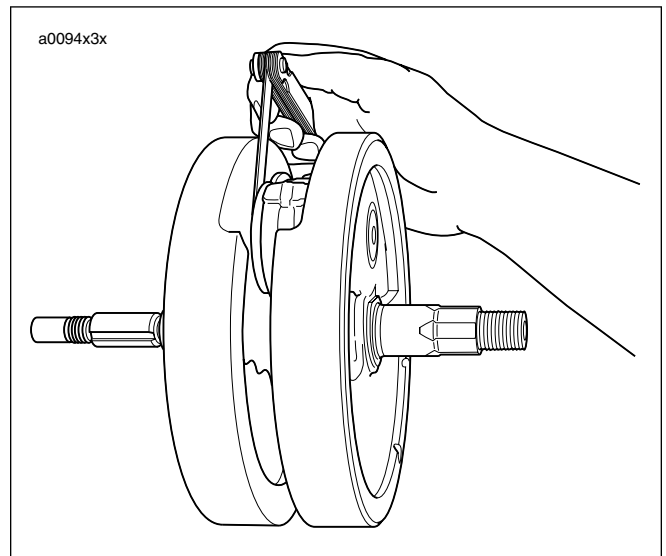

Figure 3-151. Checking Connecting Rod Side Play
1. See Figure 3-151. Check connecting rod side play with a thickness gauge as shown.